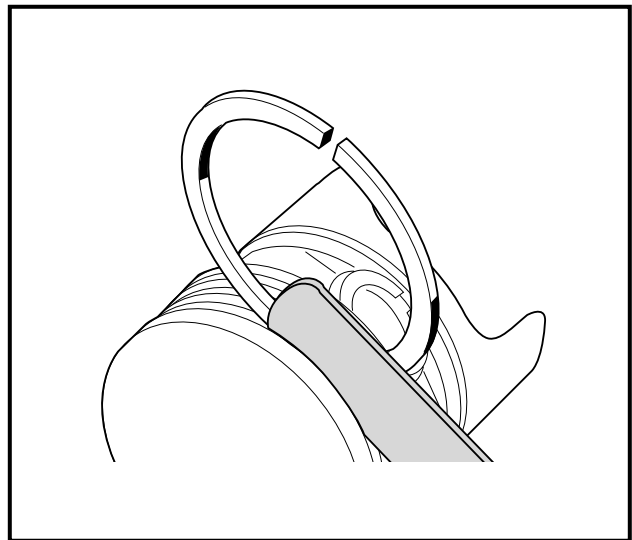

Figure 13-51 Measure Piston Ring and Groove Clearance
5. Using a new piston ring and a feeler gauge, measure the clearance between the grooves and ring at several points around the grooves (**Figure 13-51, Page 13-27**).